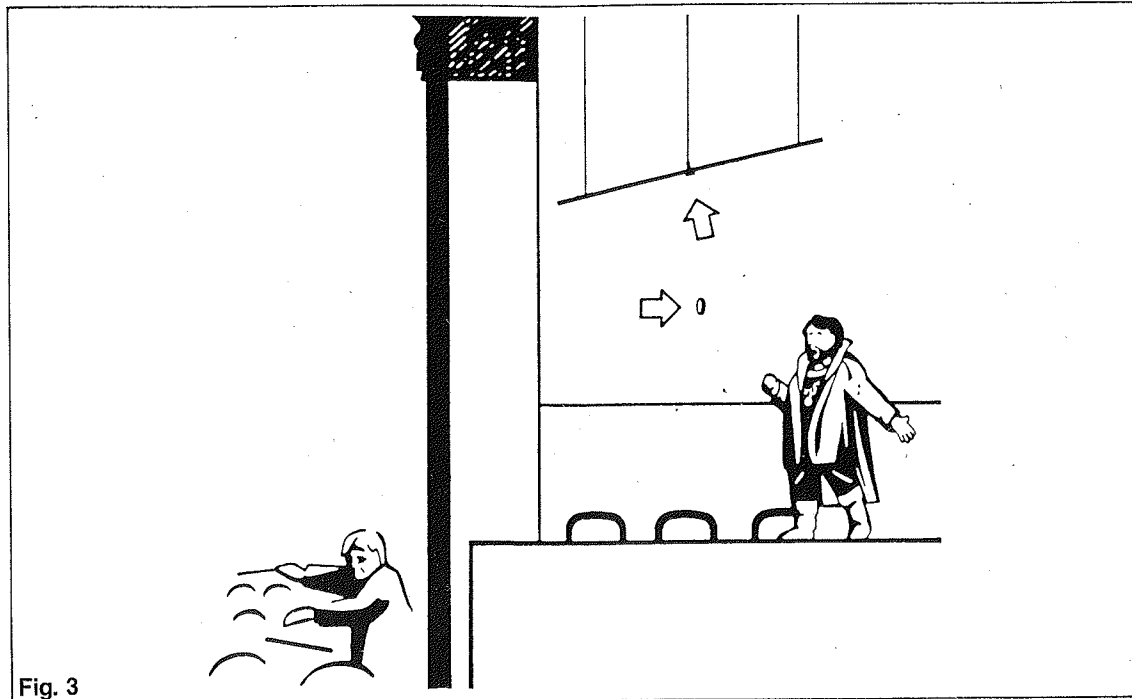

Fig. 3
1. One method would be to install the microphone in a reflective wall (with no wallpaper or other sound absorbing material) near the sound source. The wall should be as even and reflective as possible (Fig. 3).